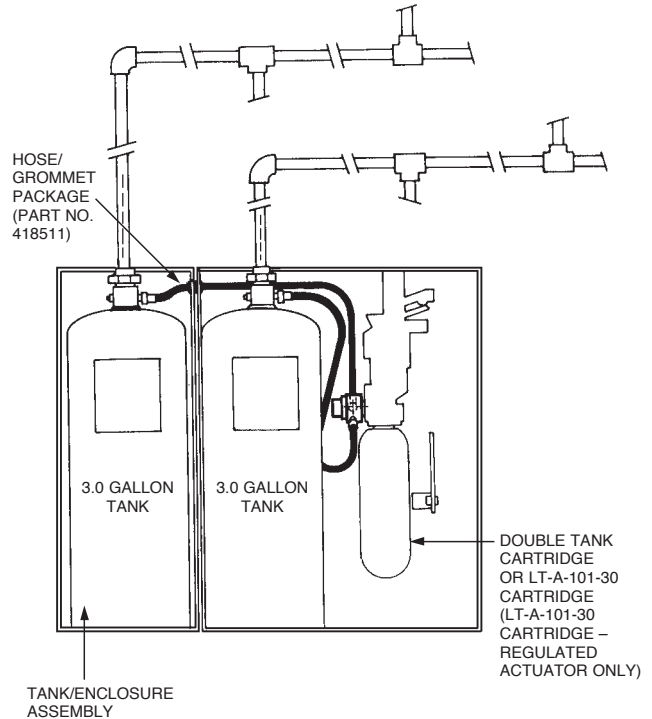

FIGURE 4-163
2. See Figure 4-163 for tank connections.
Independent pipe runs can also be used with the regulated release assembly and the tank/enclosure assembly or tank mounting brackets. See Figure 4-163. When manifolding is not used, each of the two 3 gallon tanks utilize the piping limitations of a single tank system.